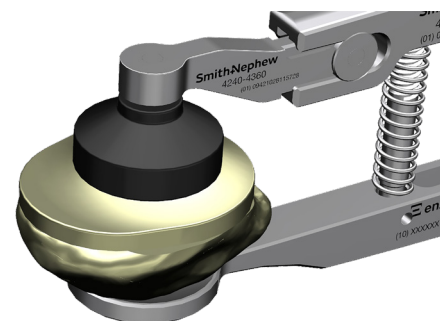

Figure 55
4. Clamp the patellar implant into the bone and remove the extruded cement (Figure 55).